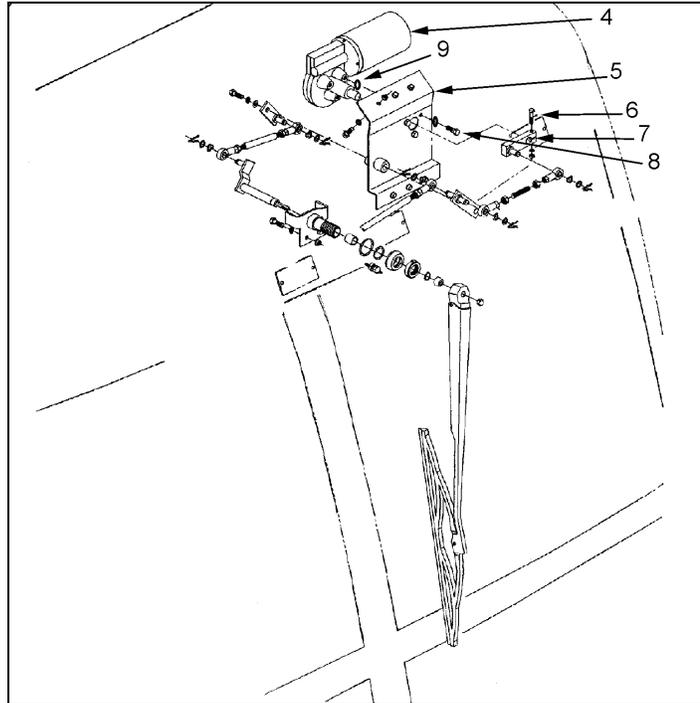

FIGURE 2 : (4) MOTOR, (5) SUPPORT, (6) CRANK ARM SCREW, (7) CRANK ARM, (8) MOTOR CAP SCREW #5001217, (9) WASHER #500985
3. Dismount the motor support (figure 2).
5. Unscrew and remove the 3 cap screws holding the motor in place and remove the motor (figure 2).